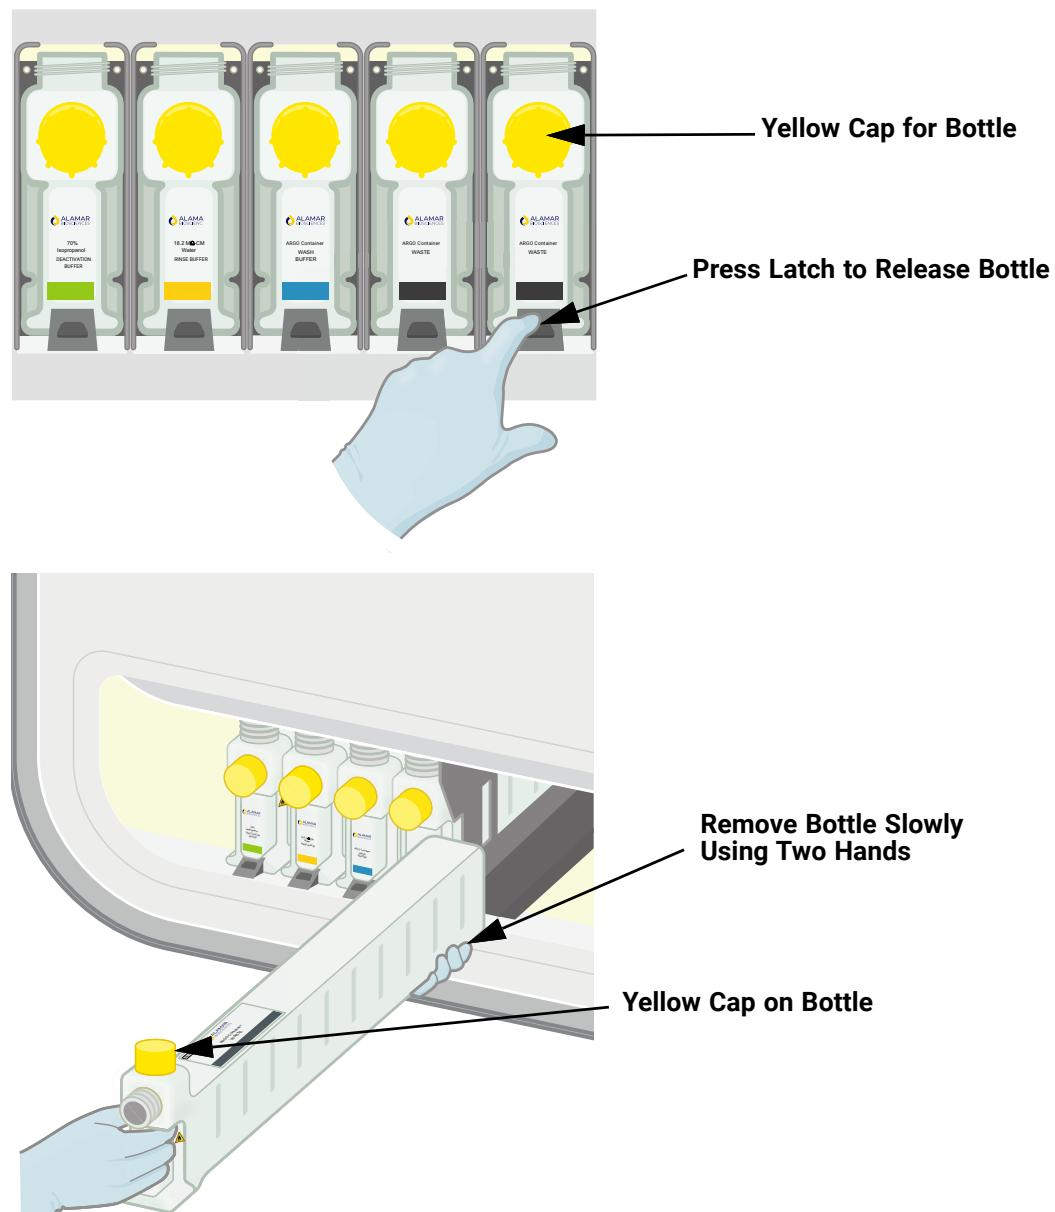
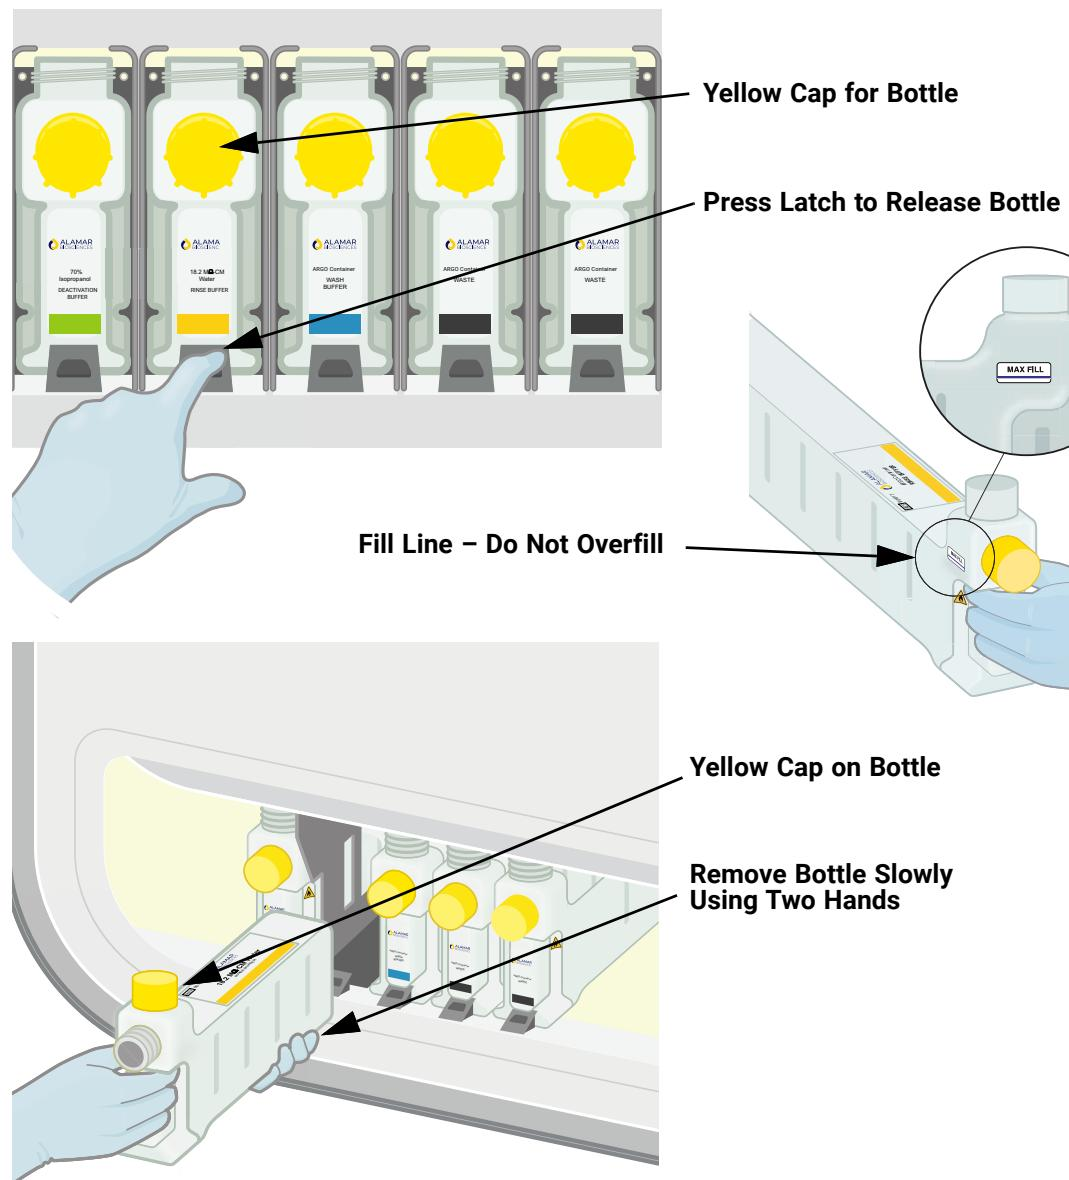

Figure 8-3. Removing Waste Water Bottles
Figure 8-4. Removing Consumable Bottles
2. Press the black latch in the front of the bottle. See Figure 8-3.
4. Unscrew the yellow cap from the front of the bottle and screw it tightly onto the opening on the top of the bottle. See Figure 8-3.
5. Continue pulling the bottle until it is removed from the instrument. As the bottle is pulled forward, support the back of the bottle with your other hand. See Figure 8-3.
<ol style="list-style-type: none"> 1. Open the bulk consumables door from the ARGO HT touchscreen. Skip this step if the door is already open for emptying the waste container bottles. 2. Press the black latch in the front of the bottle. See Figure 8-4. 3. Slowly pull the bottle forward: <ul style="list-style-type: none"> • For deactivation buffer and rinse buffer, pull the bottle out approximately 10 cm (4 in.). • For wash buffer, pull the bottle out approximately 15 cm (6 in.). 4. Unscrew the yellow cap from the front of the bottle and screw it tightly onto the opening on the top of the bottle. See Figure 8-4 for deactivation buffer and rinse buffer and Figure 8-3 for wash buffer.
Note	<ol style="list-style-type: none"> 5. Continue pulling the bottle until it is removed from the instrument. As the bottle is pulled forward, support the back of the bottle with your other hand. See Figure 8-4 for deactivation buffer and rinse buffer and Figure 8-3 for wash buffer. 6. Once the bottle has been removed, take it to the location of the consumables. 7. Remove the yellow cap from the bottle. 8. Fill the bottles: <ol style="list-style-type: none"> A. For deactivation buffer, fill to just below the neck of the bottle with 70% IPA. B. For wash buffer, fill to just below the neck of the bottle with wash buffer. C. For the rinse buffer, fill to just below the neck of the bottle with laboratory-grade 18 MΩ•cm water (Milli-Q® water). <p>It is not necessary to empty the contents of the bottles before refilling them during normal use.</p>
Important	<p>When refilling the bottles, only fill them to the fill line indicated on the label near the neck of the bottle. See Figure 8-4.</p>